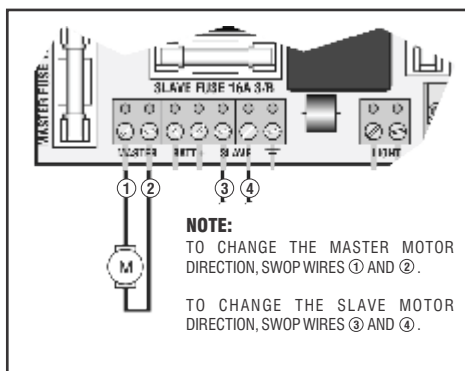

Figure 30 CP75 Controller Motor Wire Connections
**If the gate OPENS**, release the TEST button and swap the master or slave motor wires as shown in Fig. 30. To continue the setup, **press and hold** the test button as in step 17.